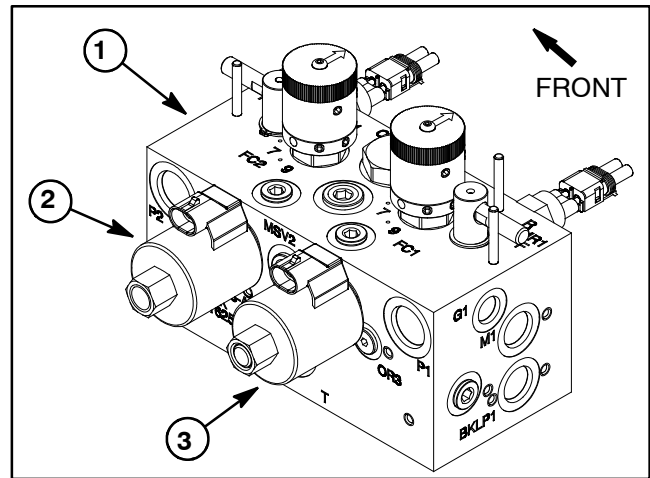
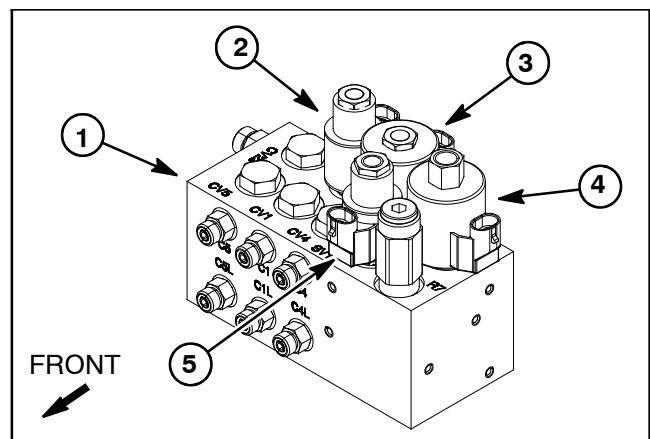

Figure 57
Figure 58
The Reelmaster hydraulic system uses several hydraulic solenoid valve coils for system control. The cutting deck manifold includes two (2) solenoid valves (Fig. 58) and the lift control manifold includes four (4) solenoid valves (Fig. 57). When the solenoid coils are energized, hydraulic valve shift occurs to control hydraulic flow. Testing of the coils can be done with the coil installed on the hydraulic valve.
3. To gain access to cutting unit control manifold (Fig. 58), raise and prop the operator seat. Access to the lift control manifold (Fig. 57) can be obtained by removing the operator floor plate.
4. Disconnect harness electrical connector from hydraulic solenoid valve coil that is to be tested (Fig. 57 or 58).